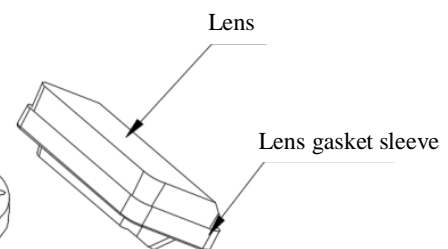

Figure 4-10
- Cover the new lens gasket sleeve onto the lens and ensure that the gasket sleeve is uniform (see Figure 4-10).